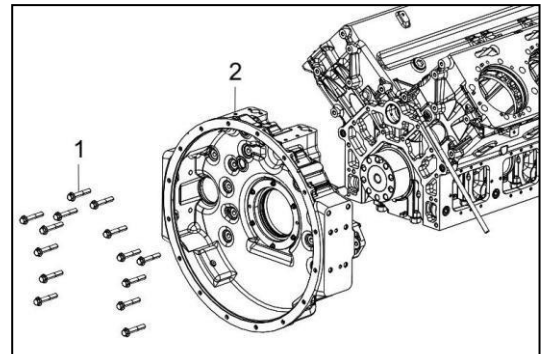

Figure 107
3. Loosen and remove the flywheel housing fasten bolts (Figure 107, 1).
4. Remove flywheel housing group (Figure 107, 2).